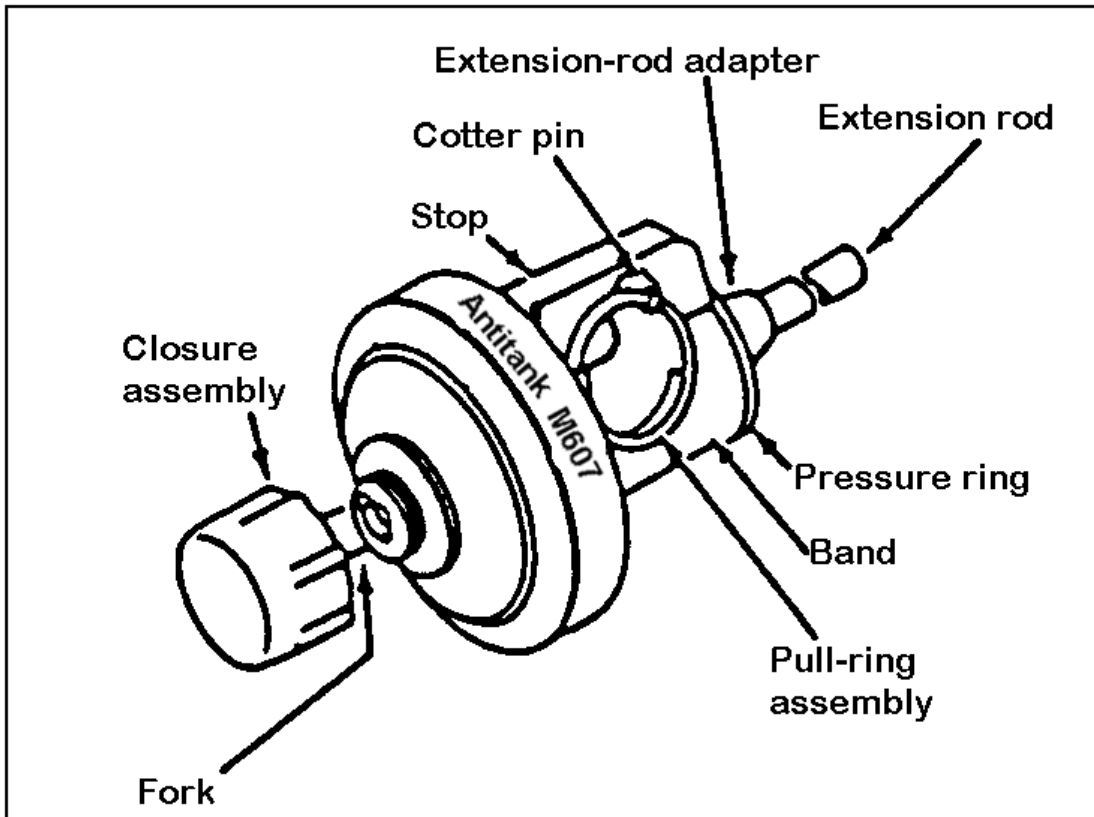

Figure 051-192-1117-1
**INSTALL AN M21 ANTITANK (AT) MINE**
- b. Ensure that the cotter pin of the fuze pull-ring assembly and fuze closure assembly are securely in place (Figure 051-192-1117-1).
- c. Turn the safety band and stop and look at the top of the fuze (Figure 051-192-1117-1).